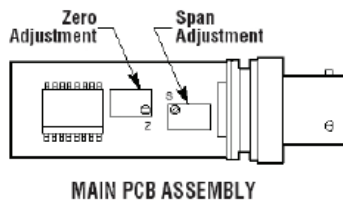

Figure 3.1
- Using a jewelers screwdriver or suitable instrument, adjust the “Z” pot (See Figure 3.1) until you have zero output.
- Apply full scale pressure to the pressure port and adjust the Span ("S") pot (on the right of Figure 3.1) until the full scale signal is reached.